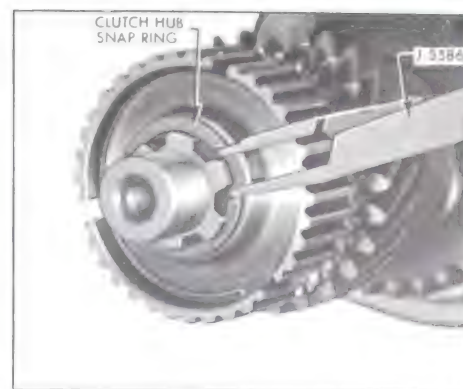

Figure 4-97—Clutch Hub Snap Ring
9. Secure clutch hub with retaining snap ring. See Figure 4-97.